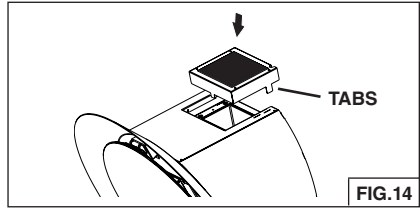

FIG.14
10. Install blade guard. Align tabs of the guard with slots on top of the hood. Fig. 14.